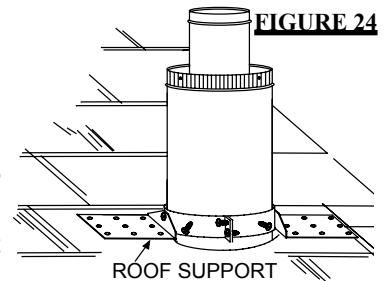

FIGURE 24
1. Fasten the roof support to the roof using the screws provided. The roof support is optional. In this case the venting is to be adequately supported using either an alternate method suitable to the authority having jurisdiction or the optional roof support. Figure 24.